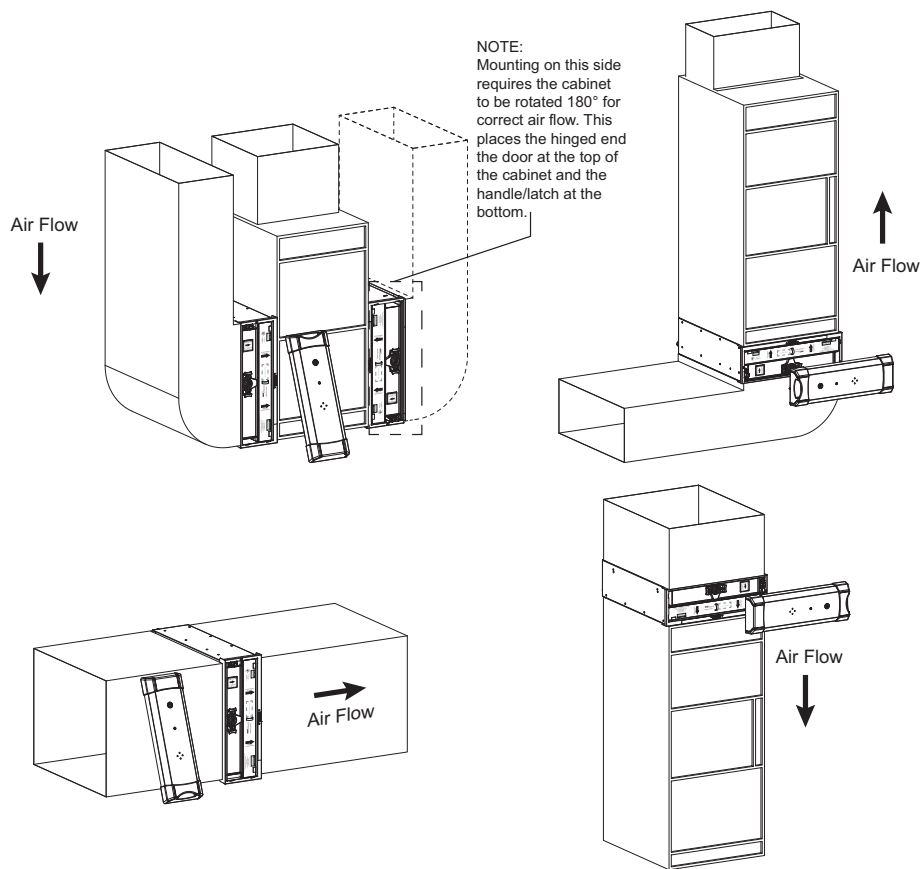

Fig. 3 - Air Purifier Cabinet Orientation
1. Identify a mounting orientation for the Air Purifier in the return air duct (see Figures 3 and 4).
5. Position the cabinet between the furnace and return air duct (see Figures 3, 4, and 5). A transition duct may be required. On some furnaces, one or more screws may interfere with the ease of removal of the purifier door. In this case, replace the interfering screw(s) with pop rivet(s). Removing the screws without replacing them with pop rivets may have an adverse effect on air sealing or structural integrity of the furnace.